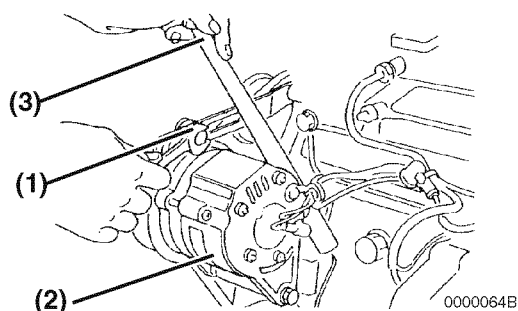

Figure 5-5
- If necessary, adjust the V-belt tension. Loosen the adjusting bolt (Figure 5-5, (1)) and the other related bolts and/or nuts, then move the alternator (Figure 5-5, (2)) with a pry bar (Figure 5-5, (3)) to tighten the V-belt to the desired tension. Then tighten the adjusting bolts and/or nuts.